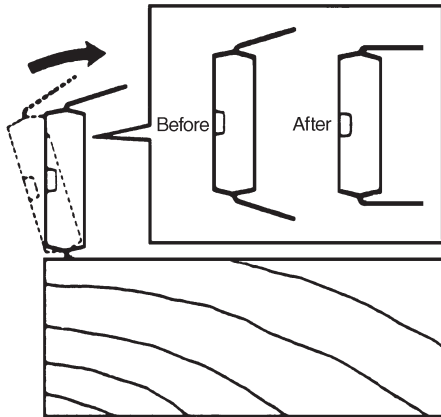

Figure 4-1. Straightening the Pins
- 1 Straighten the pins on the PROM by holding each side against a flat surface and pressing the pins gently (see Figure 4-1).